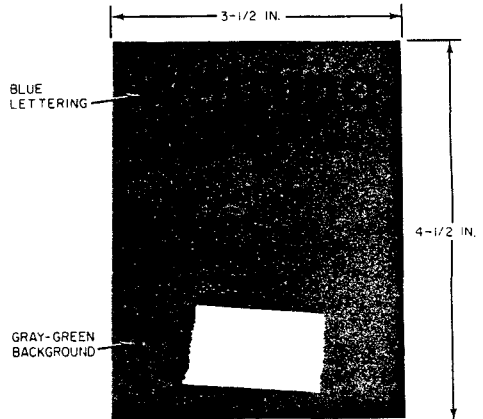

Fig. 5—F Warning Decal
3.02 The F warning decal (Fig. 5) is a gray-green and blue decal for use in urban areas and at other locations where a decal that blends into the landscape is considered desirable. The F warning decal is 4-1/2 inches long and 3-1/2 inches wide.